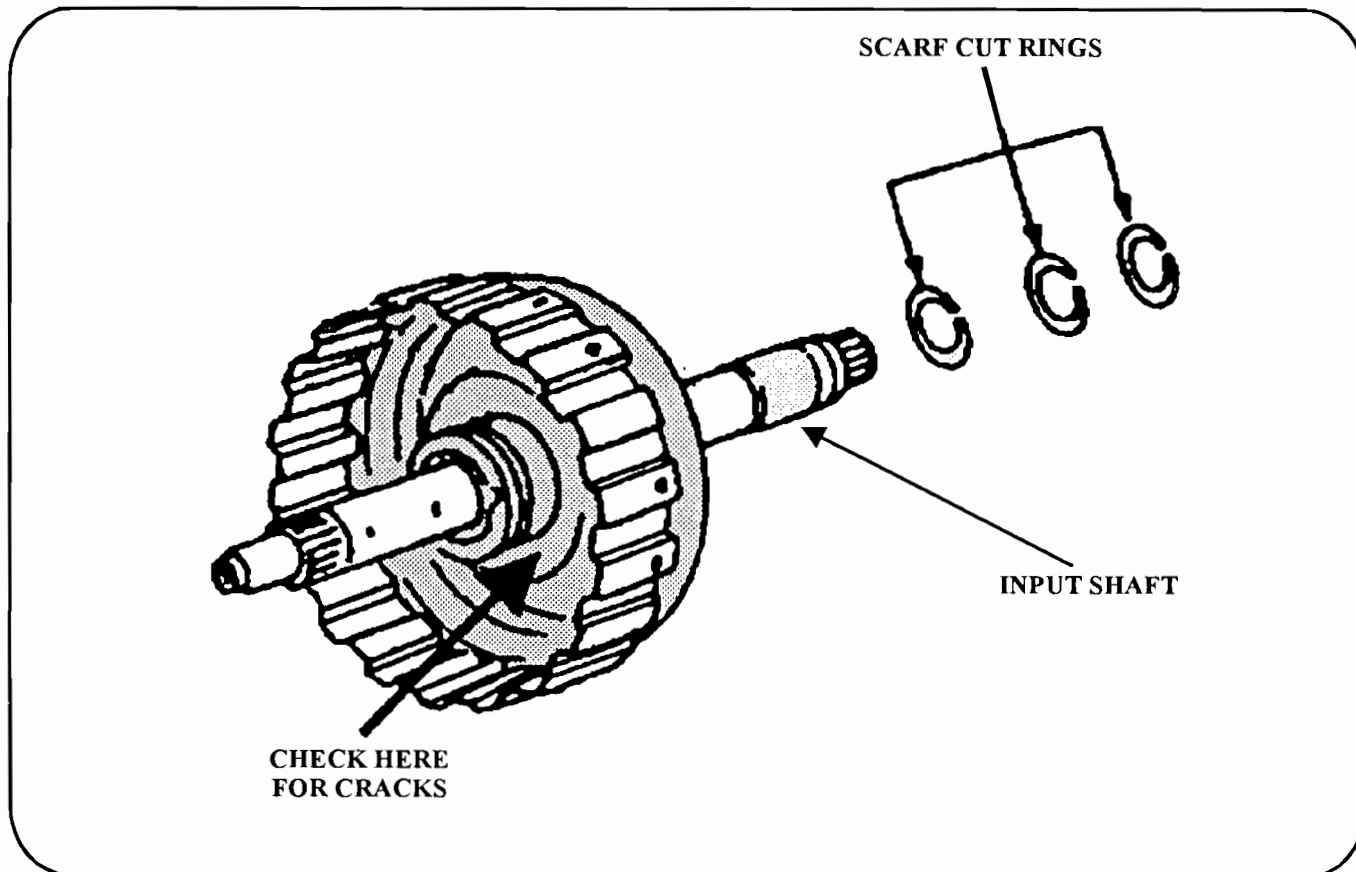

Figure 52
#2-It has also been found that the direct drum is prone to cracking in the area around the inside diameter of the drum where the input shaft is attached to the drum, and is sometimes difficult to see visually. (See figure 52)
#2-If when checking the "D" ring for "DRAG" as explained above, you determine the "D" ring DOES have sufficient "DRAG", than a close inspection of the direct drum for cracks, in the area shown in figure 52, is MANDATORY. Replace the direct drum as necessary.
**NOTE:** ATSG has found that the Chrysler 413/470 scarf-cut Teflon sealing rings provide much better sealing of direct clutch oil, when they are used on the input shaft in this unit. (See figure 52)